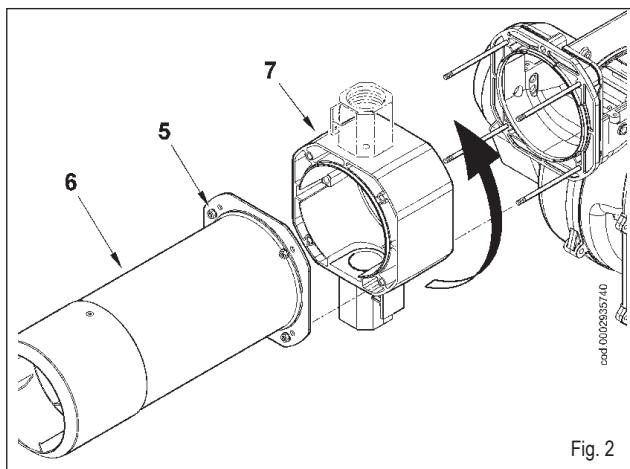

Fig. 2
- 2) Make sure that mobile plate 3 is held in place by screw 4. This will permit the mixer unit to be reassembled in the position adjusted previously after completion of maintenance work. Slacken screw 5, which anchors the unit's forward movement rod to the mobile plate (figure 2).
- 3) Now remove the 4 nuts (5) in figure 2, dismantle the flame tube(6) and, after pulling off the lung (7) from its stud bolts, put it back in position with the threaded connection for anchoring the gas train turned upward.
- 4) To complete the operation, anchor the flame tube (6) and the lung (7) in place with the 4 nuts (5), then put the mixing unit back in its housing.